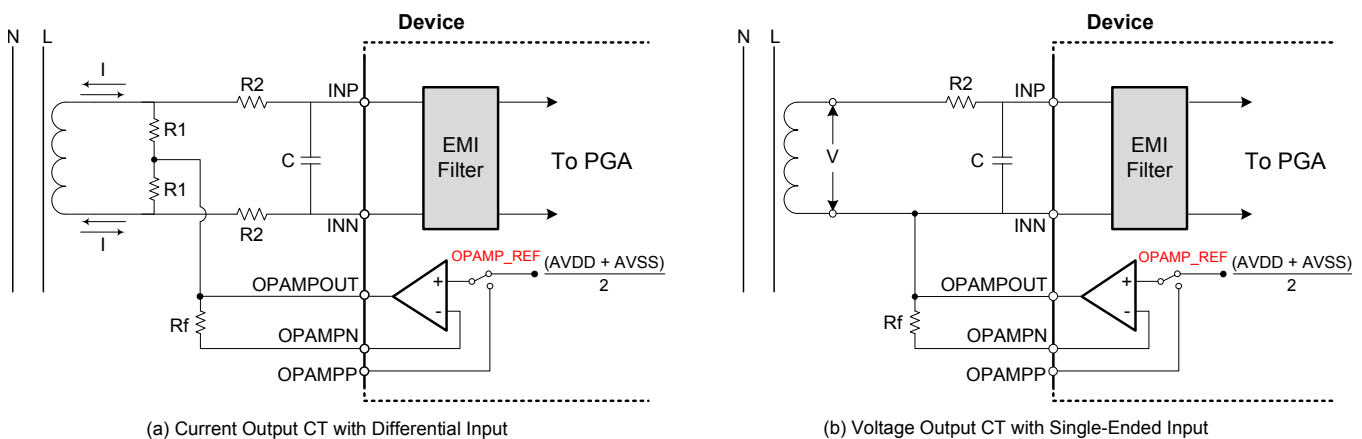

Figure 41. Simplified Current-Sensing Connections
Figure 41 shows a simplified diagram of typical configurations used for current sensing with a Rogowski coil, current transformer (CT), or an air coil that outputs a current or voltage. In the case of current-output transformers, the burden resistors (R_1) are used for current-to-voltage conversion. The burden resistor output is connected to the ADS130E08 INP and INN inputs through an antialiasing RC filter for current sensing. In the case of voltage-output transformers (such as certain types of Rogowski coils), the transformer output terminals are directly connected to the ADS130E08 INP and INN inputs through an antialiasing RC filter for current sensing. The common-mode bias voltage $(AVDD + AVSS) / 2$, can be obtained from the ADS130E08 by either configuring the internal op amp in a unity-gain configuration using the R_f resistor and setting bit 3 of CONFIG3: Configuration Register 3, or it can be generated externally with a simple resistor divider network between the positive and negative supplies.